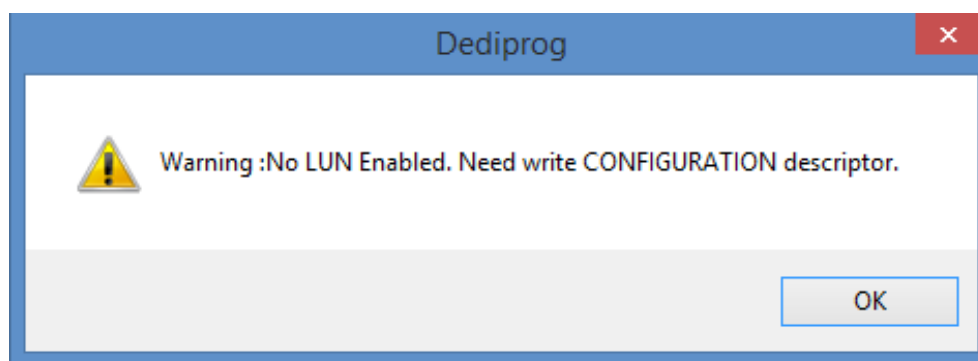

Fig. 5-41
**Step 2.** When you see a warning message shown as Fig. 5-41, please go to **Descriptors** in the **Config** window, set up the configuration descriptor dialogs, and then partition the UFS and the LUN.